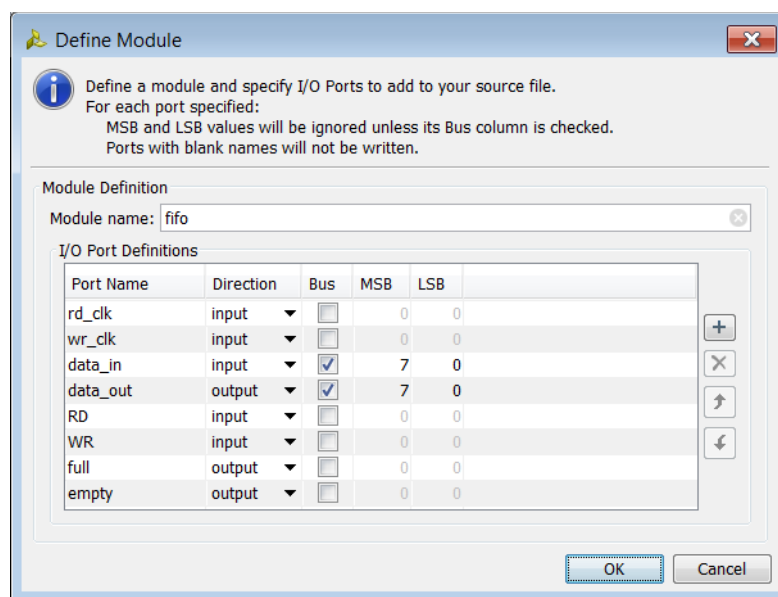

Figure 3-4: Define Module Dialog Box
8. *Optional:* In the Define Modules dialog box (Figure 3-4), define the module or architecture in the Verilog, Verilog Header, SystemVerilog, or VHDL code using the following options, and click **OK**: